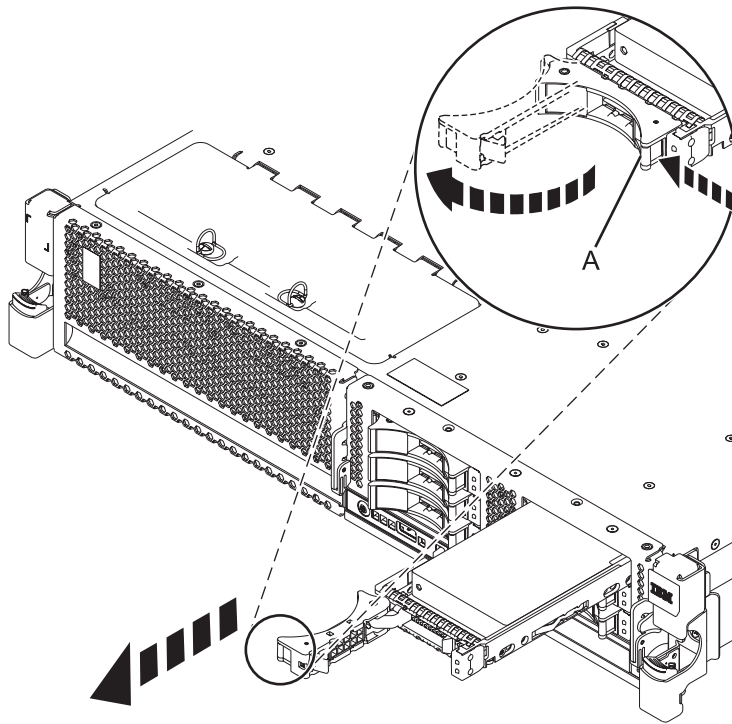

Figure 18. Removing a disk drive from the system
- a. When the identify LED flashes, unlock the drive handle by squeezing it and pulling it out toward you, as shown in Figure 18 on page 31.